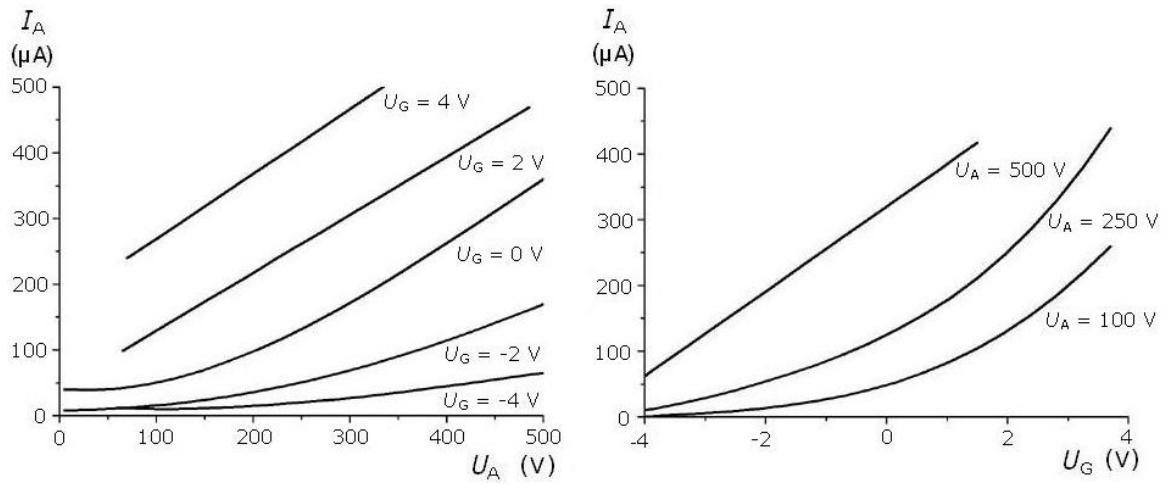

Fig. 2 Triode characteristics
- $I_A - U_A$ characteristics: for constant grid voltages, determine the anode current as a function of the anode voltage and plot the values in a graph (refer to Fig. 2).
- $I_A - U_G$ characteristics: for constant anode voltages, determine the anode current as a function of the grid voltage and plot the values in a graph (refer to Fig. 2).